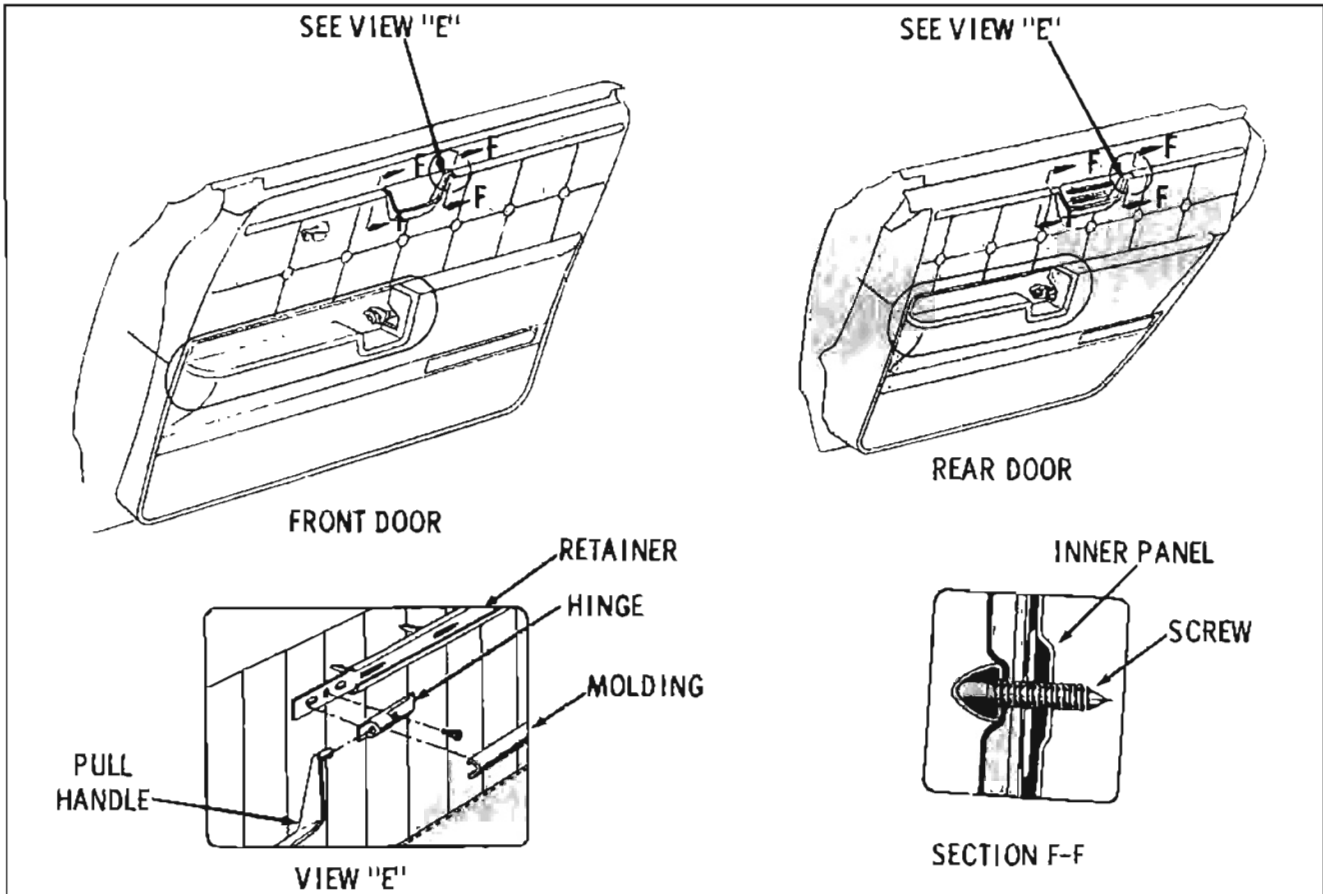

Fig. 16-25 Front and Rear Door Pull Handle
1. Insert end of a screwdriver or other suitable tool under edge of trim pad accent molding and snap molding out of engagement with retainer. (View "E" in Fig. 16-25)
2. Remove the single screw securing door pull handle hinge to trim pad and remove hinge. (View "E" in Fig. 16-25)